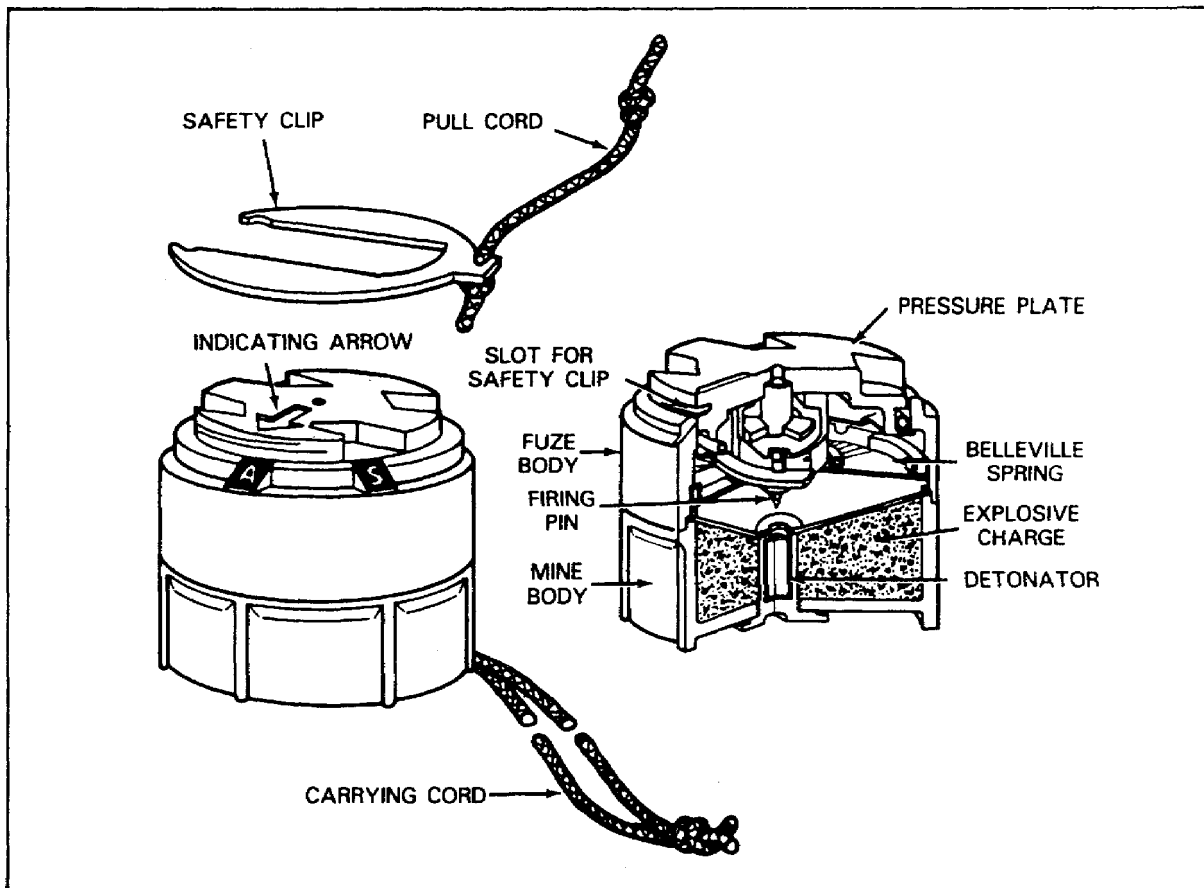

Figure 52. Mine, Antipersonnel, Nonmetallic, M14.
Mine, Antipersonnel, Nonmetallic, M14. The M14 mine (Figure 52) is comparatively small. It is less than 2 1/2 inches in diameter and weighs only 3 1/3 ounces. The letters S and A on the fuze body indicate the Safe and Armed positions of the pressure plate. All mines have three safety measures. On the M14 antipersonnel mine: (1) The pressure plate must be set on A before the mine can function. (2) A metal safety clip must be removed before the mine can be set on A. (3) The detonator assembly is packed in separate pieces within the same shipping container and is only installed immediately before use.